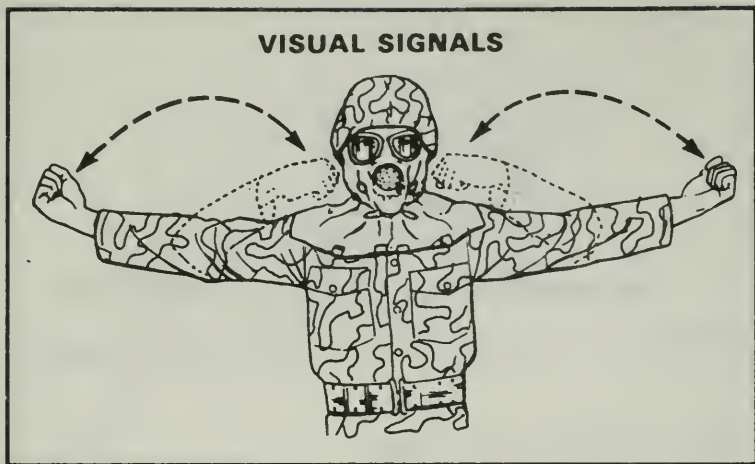

Figure 276. Chemical attack hand and arm signal.
- b. Give hand and arm signal (Figure 276).